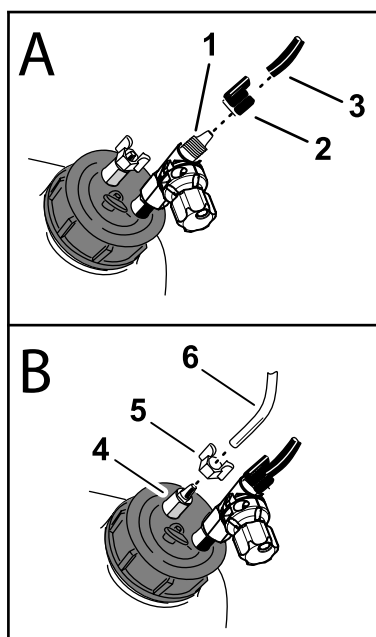

Figure 2
1. Assemble blue compression nut (Figure 2) that you removed in step 3 of Installing the Foam Control Valve (page 3) onto the blue tube of the compressor to tank loop-back tubing that you cut in 2 Preparing the Tubing (page 2).
2. Assemble the blue tube and blue nut into the fitting of the cap-mounted regulating valve, and tighten the compression nut by hand (Figure 2).
4. Remove the white compression nut from the fitting on the tank cap (Figure 2).
5. Assemble white compression nut onto the clear tube of the compressor to tank loop-back tubing (Figure 2).